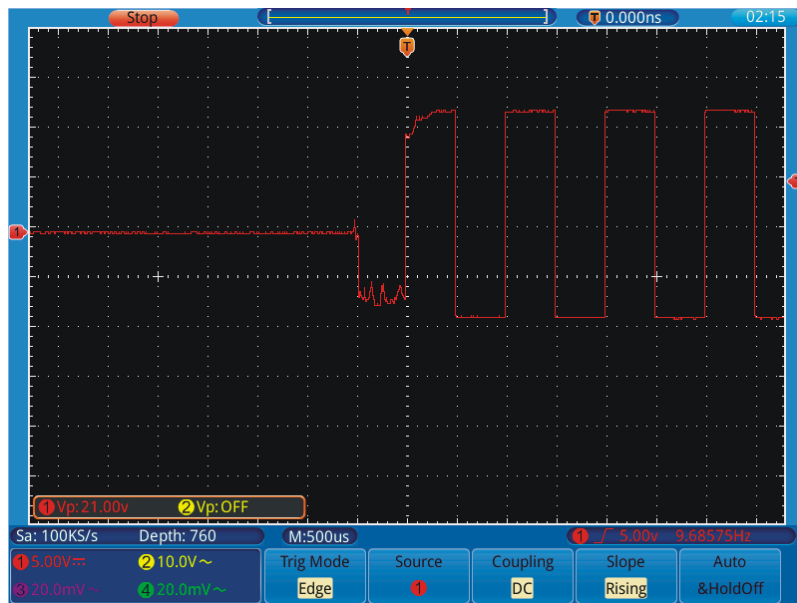

Figure 46. Capturing a Single Signal.
- 5 Select **Source** in the bottom menu; select ① in the left menu. ②
- 10 Check the Trigger State Indicator on the top of the screen, if it is not Ready, push down the **Run/Stop** button and start acquiring, wait for trigger to happen. If a signal reaches to the set trigger level, one sampling will be made and then displayed in the screen. By using this approach, a random pulse can be captured easily. For instance, if we want to find a burst burr of high amplitude, set the trigger level to a slightly higher value of the average signal level, press the **Run/Stop** button and wait a trigger. Once there is a burr occurring, the instrument will trigger automatically and record the waveform during the period around the trigger time. By turning the **HORIZONTAL POSITION** knob in the horizontal control area in the panel, you can change the horizontal triggering position to obtain the negative delay, making an easy observation of the waveform before the burr occurs (see Figure 46).